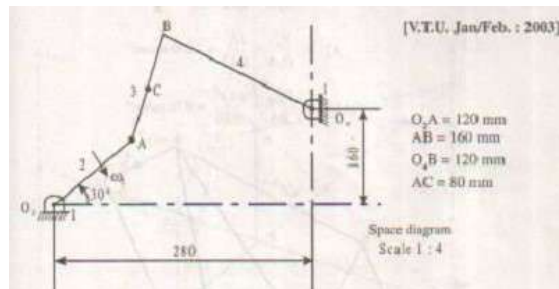

Fig. 2.3
3. The crank O₂A of four bar mechanism shown in fig.2.3, is rotating clockwise at a constant speed of 100 rad/sec. Determine (a) The acceleration of the point C (b) The angular acceleration of the links 3 & 4.